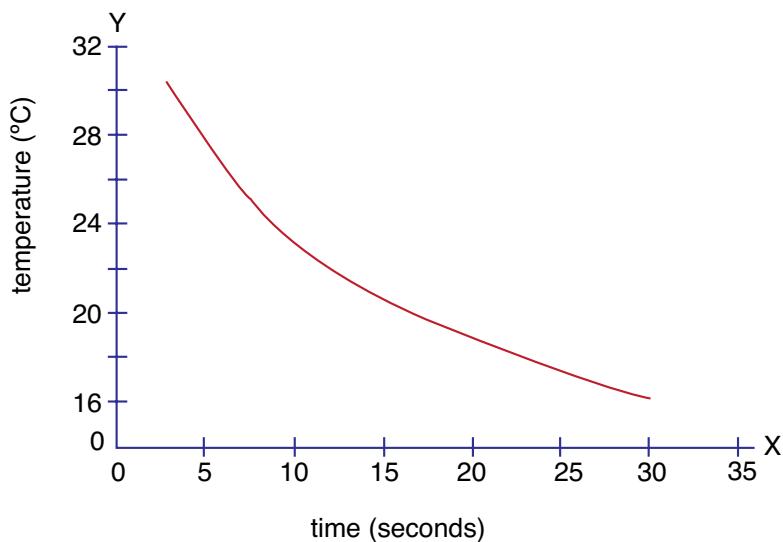

Figure 6
3. Graphs will vary but will most likely be similar to the one in Figure 6.